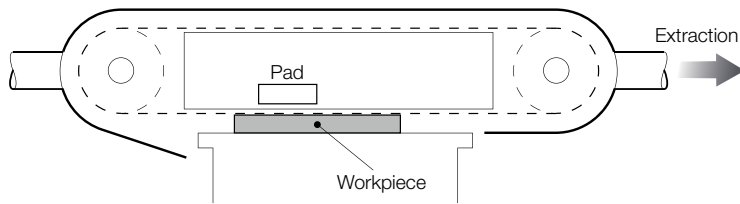

Figure 1 Ventilation system for vertical sander
Large horizontal belt (pad) sanders – see Figures 1 and 2
- ✓ Enclose the head pulley and the tail pulley with a LEV hood. See Figure 1.